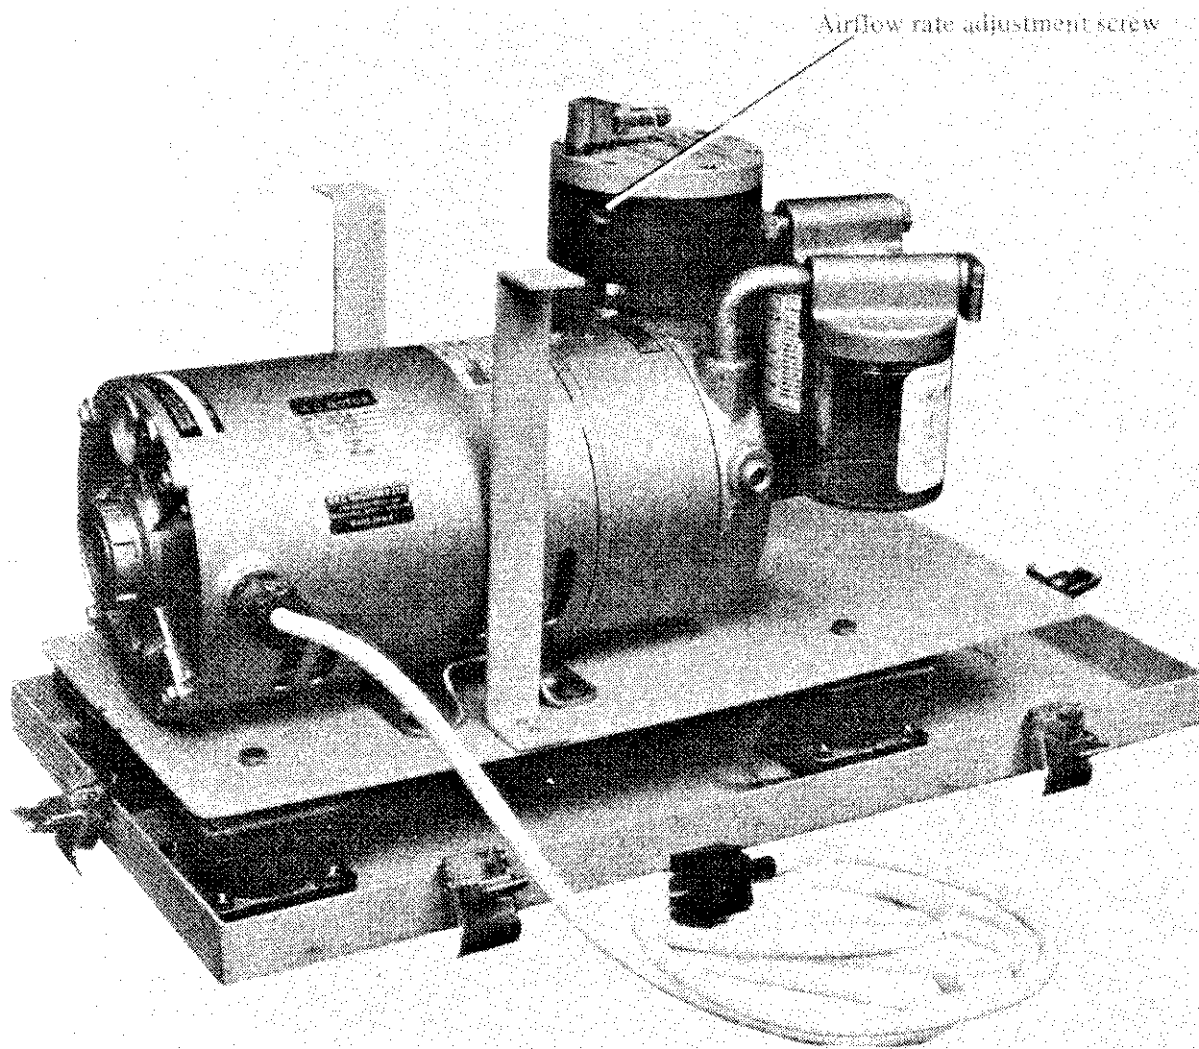

Fig. 6 Pump type RAP 1 airflow adjustment
When using the pump RAP 1 (NSN 4320-99-659-5814) the airflow rate is adjusted by the control on the RAP1 pump. See figure 6 and is to be set for a rate of 30 LPM as indicated on the monitor.
13. Adjustment of the airflow through the monitor may be achieved by using a screw at the rear of the pump regulator (fig. 6) whilst observing the flowrate indicator on the front of the monitor.